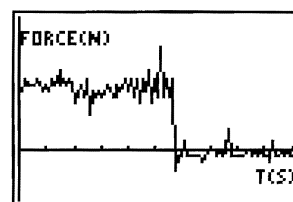

Figure 2:
- 5 To see a plot of net force versus time, select 2 from the PLOT OPTIONS menu on the calculator. Your force versus time graph should look similar to Figure 2. Force (in Newtons) is stored in L4 and time (in seconds) is stored in L2.